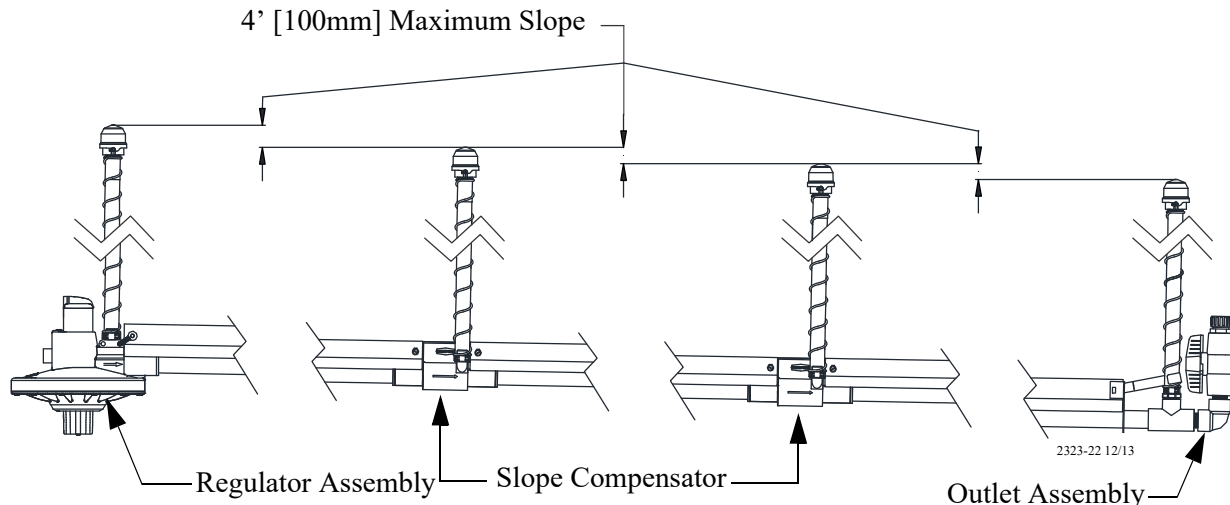

Figure 22. Slope Compensator Assembly Installation
- The maximum amount of drop between the inlet assembly and the slope compensator, or between two slope compensators, or between the slope compensator and the outlet assembly is 4 inches [100 mm] (Figure 22.)